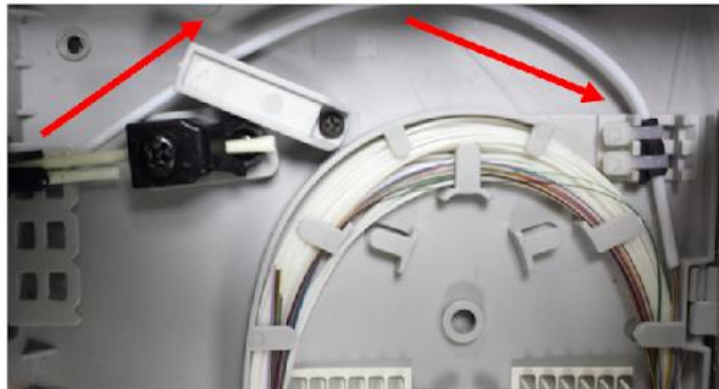

Fig. 16
3.6.2. Route the fibers and prepare the ends for splicing (Fig. 16)